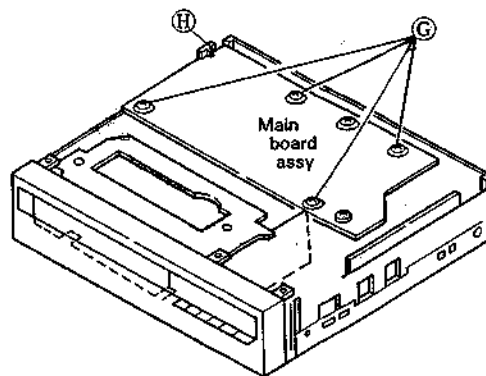

Fig. 1-1-4
2. Refer to Fig. 1-1-4. Take out 4 screws (G) and disengage 1 claw (H) from main board assembly.